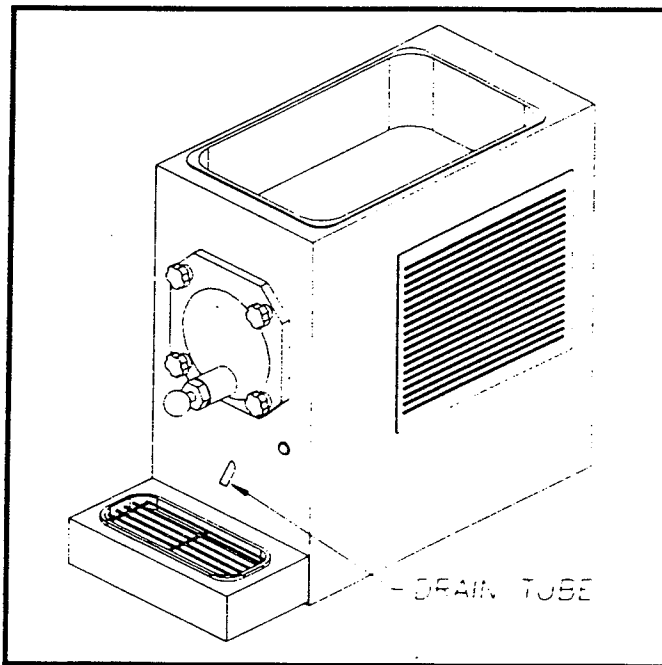

Figure 13
- E. Clean drain tube using the brush provided (Fig.13).